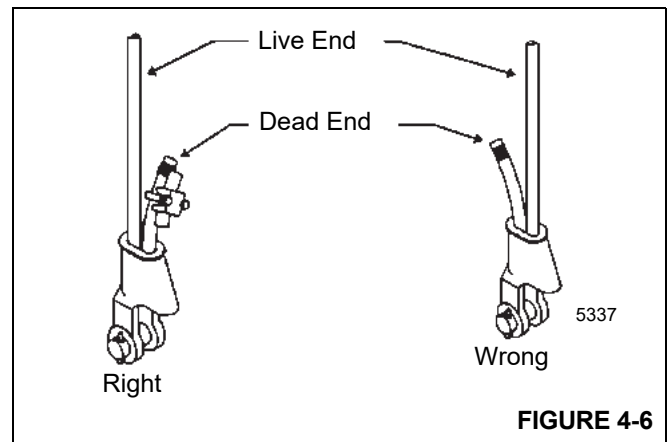

FIGURE 4-6
3. Make sure the live-loaded side (Figure 4-6) of the rope is directly in line with the ears of the socket and the direction of pull to which the rope will be subjected. If the rope is loaded into the socket incorrectly, under a load the rope will bend as it leaves the socket, and the edge of the socket will wear into the rope causing damage to the rope and eventual failure.